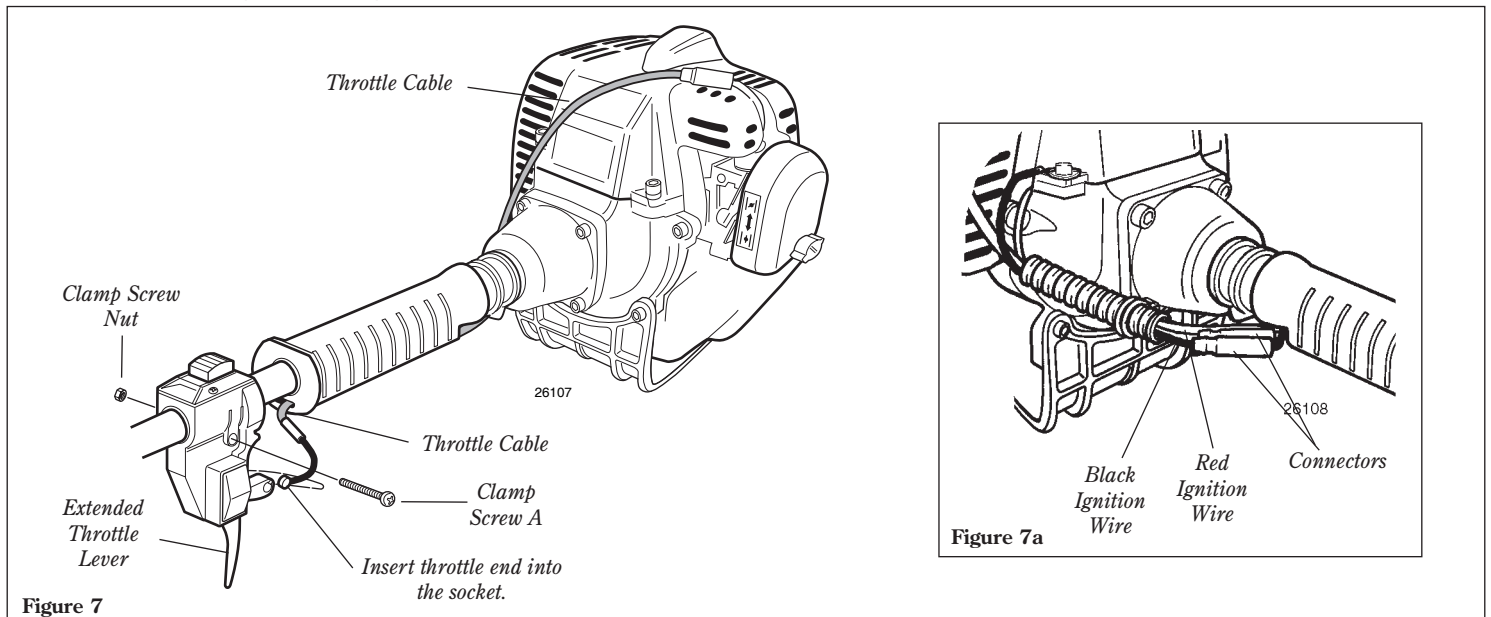

Figure 7
### Refer to Figures 7 and 7a.
2. Extend the throttle lever to expose the cable socket. See figure 7.